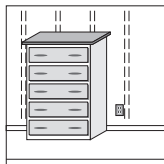

Figure 1
- Locate the wall studs behind the furniture. Mark studs on both wall and furniture top and mark height of furniture on wall. (Fig. 1)